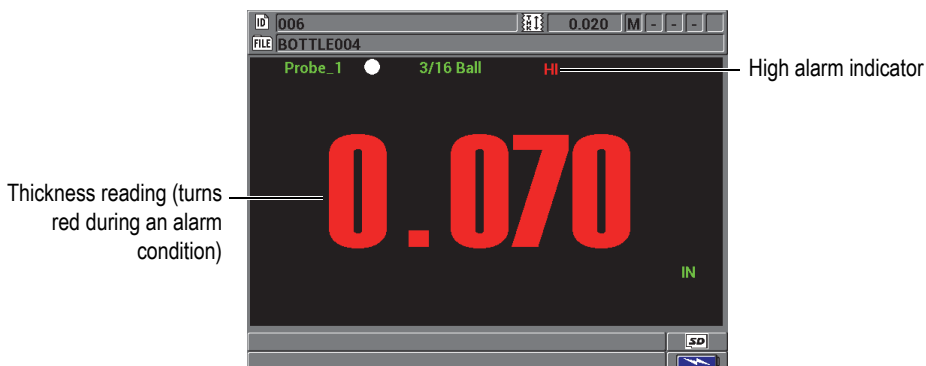

Figure 5-5 Example of a HIGH alarm indicator
- The **HI** or **LOW** alarm indicator flashes in the top right-hand corner of the measurement screen (see Figure 5-5 on page 96).